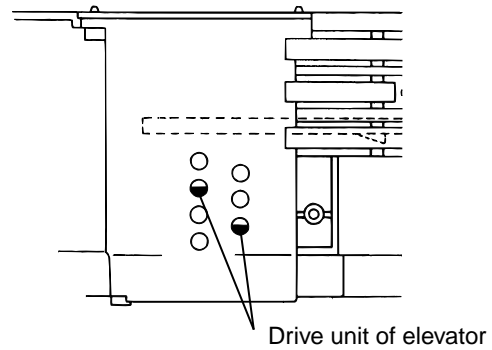
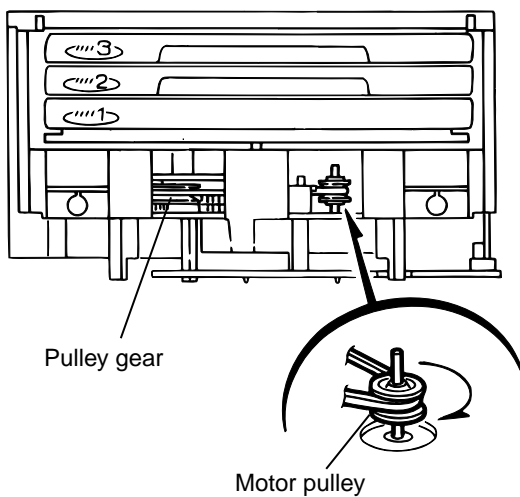

Fig.7
Fig.8
**[Caution]** In case the driver unit elevator is not at above position, set the elevator to the position as shown in Fig.7 by manually turning the pulley gear as shown in Fig.8.
13. Manually turn the motor pulley in the clockwise direction until the lifter unit stopper is lowered from the section "E" of CD tray assembly(See Fig.8).